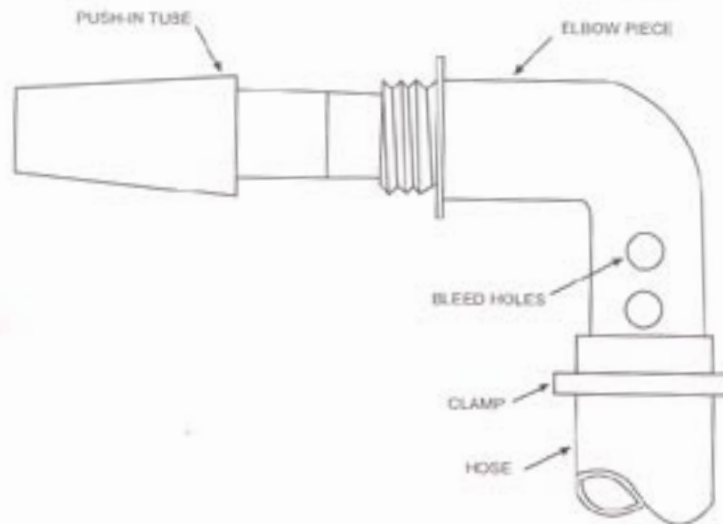

FIGURE 6
2. Refer to Figure 6. Push the small end of the Push-in Tube (12) into the threaded end of the Elbow Piece (6) until it is secure. This is your inlet adapter.
3. Refer to Figure 1. Uncoil the hose (3) and remove all twist. Using clamps (15), clamp one end of the hose to the back side of the fountainhead (1), and the other end to the inlet adapter from step 2. Cover one set of bleed holes with the hose (Fig. 6). To tighten clamp, grasp "tabs" between thumb and forefinger and squeeze. Tighten securely with a pair of pliers. To open the clamp, grip one "tab" of the clamp with pliers and twist loose.
4. Using the tie wrap (14), LOOSELY attach the anchor (4) to the hose (3). The anchor (4) should be attached to the hose (3) at a point as deep as the water plus approximately two feet. You will have to estimate what the water depth is where you want the fountain and add two feet. **CAUTION: DO NOT CONSTRICT THE HOSE BY TIGHTENING THE TIE WRAP (14) TOO TIGHT.**
6. Place the fountain assembly into the pool. Position the fountain in the desired location being careful not to crimp the hose (3).
Height adjustment is achieved by covering more or less of the bleed holes (Fig. 6) on your elbow piece (6) with the hose (3). The more holes covered, the higher the fountain and vice versa.